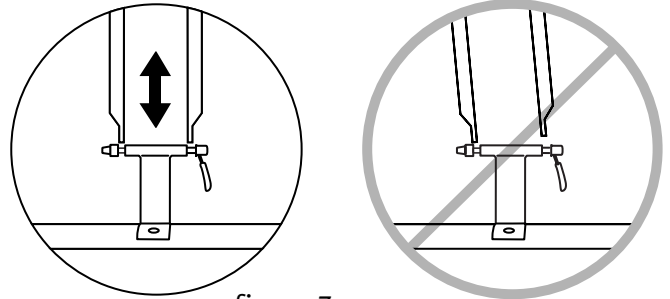

figure 7
2. Set the bike on the rack with the rear wheel in the Wheel Tray (K) and place the fork STRAIGHT DOWN INTO THE FORK RISER. See figure 7.